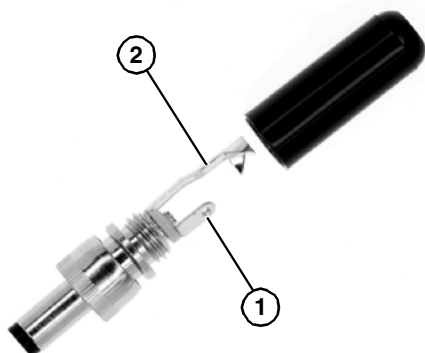

Figure 25
1. Locate the male disconnect plug (Figure 25, item 1) provided.
2. Wire and solder DC power to the two terminals of the provided DC power plug. Wire +VDC to the short lug (Figure 25, item 1) and -VDC to the long lug (Figure 25, item 2).